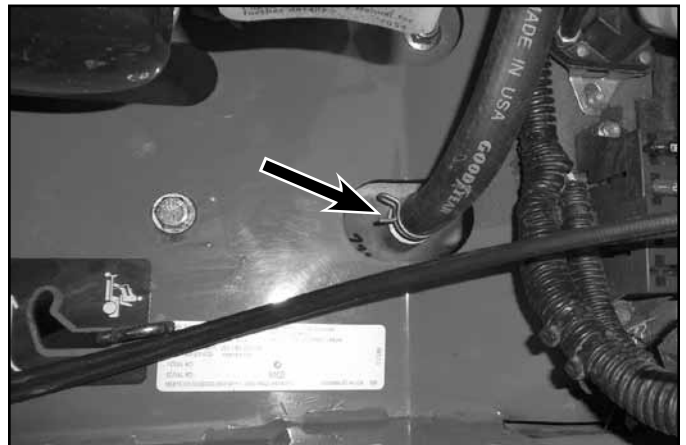

Fig. 073
10. Disconnect and plug the hydro reservoir hoses at the hydro fitting. Be sure to capture and dispose of fluid and shop towels properly (Fig. 073).